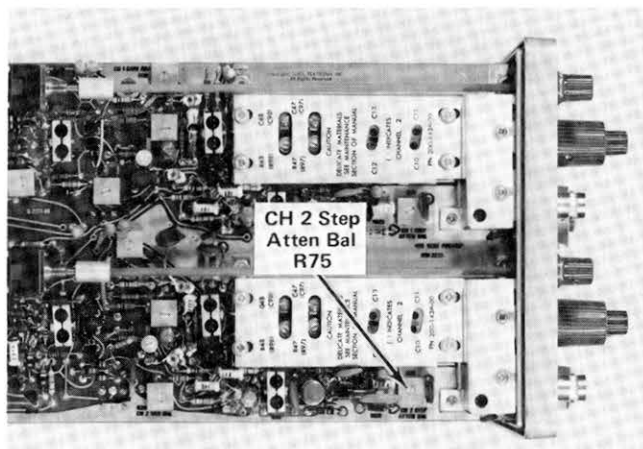

Fig. 5-12. Location of CH 2 Step Atten Bal adjustment.
- d. ADJUST—CH 2 Step Atten Bal adjustment, R75, (see Fig. 5-12) for minimum trace shift when rotating the CH 2 VOLTS/DIV switch from 20 mV to 5 mV.